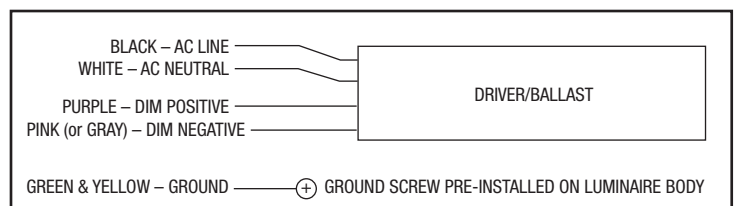

Fig. 3
5. Wiring must comply with all applicable electrical codes. (Figure 3)